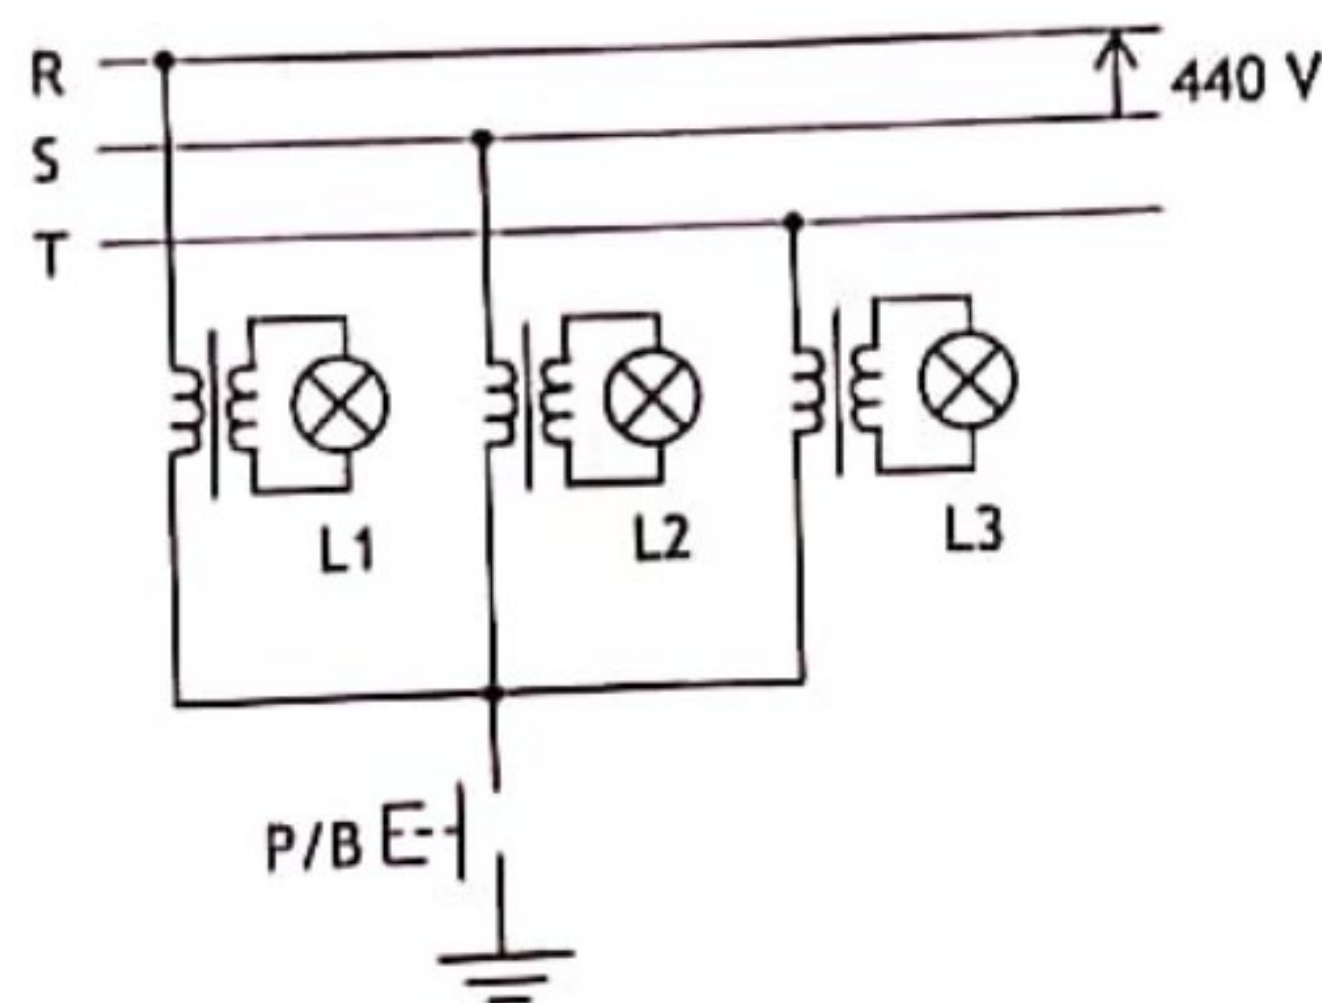

Fig Q8
- (a) sketch a labelled block diagram; (8)
- (b) describe the purpose of EACH block in the diagram for Q7(a); (5)
- (c) the ship's load is 800 kW at 0.85 lag. Calculate the power factor of the synchronous compensator if it has an input of 30 kW. (3)
8. Fig Q8 shows a circuit for earth fault monitoring lamps.